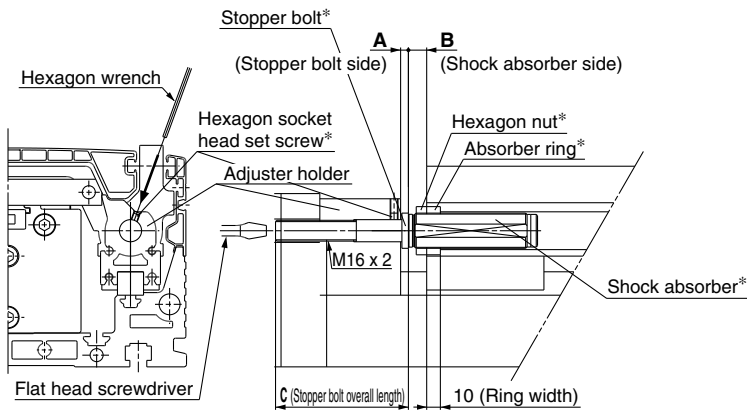

Fig. 1 Stroke adjusting section detail
1. As shown in Fig. 1, to adjust the stopper bolt within the adjustment range A, insert a hexagon wrench from the top to loosen the hexagon socket head set screw by approximately one turn, and then adjust the stopper bolt with a flat head screwdriver.
- The stroke adjustment unit is composed of the components with a * mark in Fig. 1.